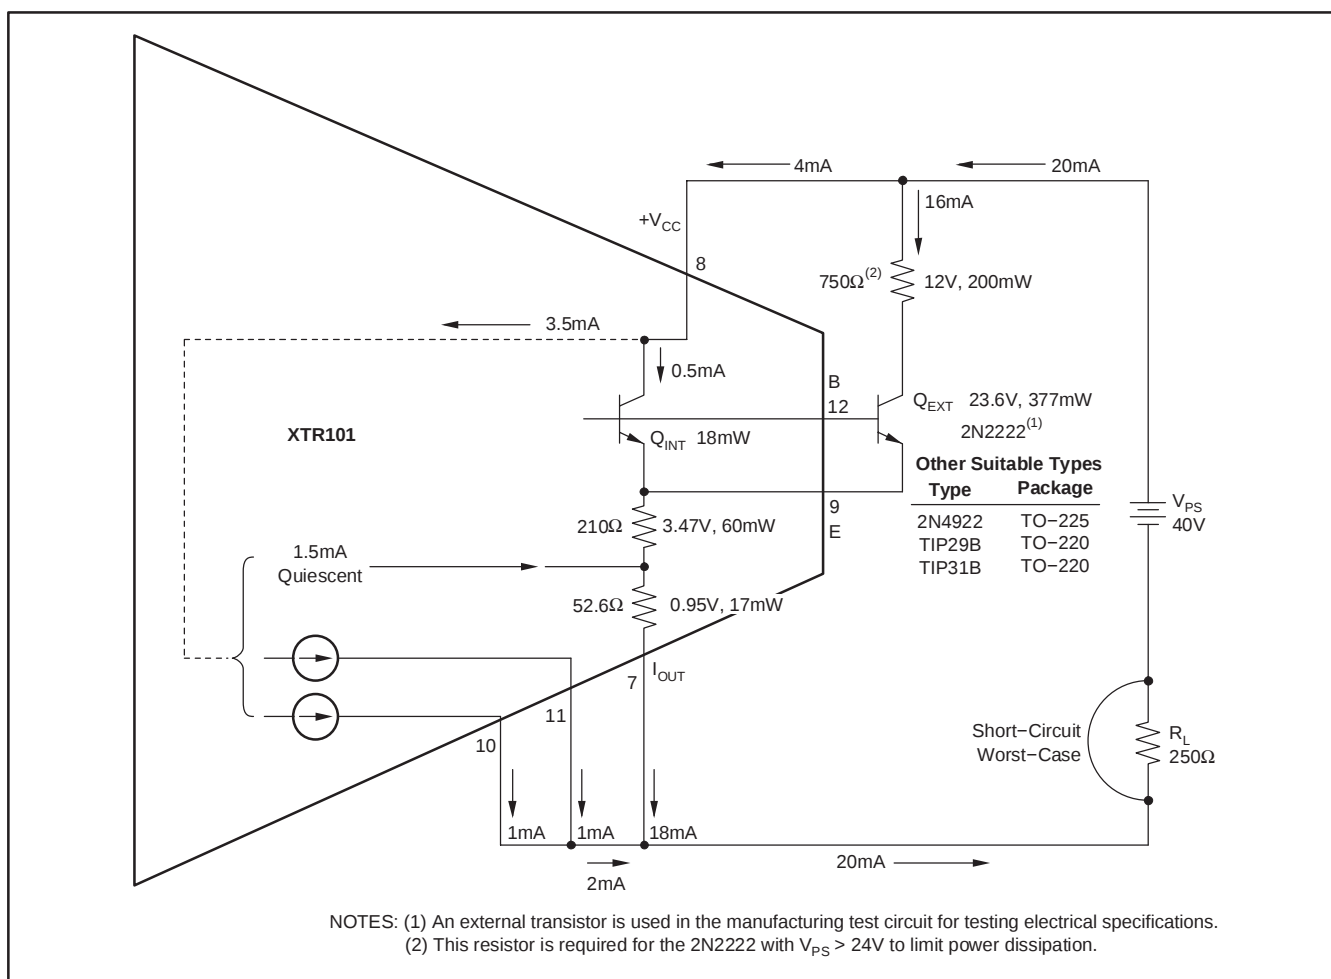

Figure 2. Power Calculation of the XTR101 with an External Transistor
The optional external transistor, when used, is connected in parallel with the XTR101 internal transistor. The purpose is to increase accuracy by reducing heat change inside the XTR101 package as the output current spans from 4-20mA. Under normal operating conditions, the internal transistor is never completely turned off, as shown in Figure 2. This maintains frequency stability with varying external transistor characteristics and wiring capacitance. The actual current sharing between internal and external transistors is dependent on two factors:
1. 2N2222 in the TO-18 package. For power-supply voltages above 24V, a 750 Ω , 1/2W resistor should be connected in series with the collector. This will limit the power dissipation to 377mW under the worst-case conditions; see Figure 2. Thus, the 2N2222 will safely operate below its 400mW rating at the upper temperature of +85°C. Heat sinking the 2N2222 will result in greatly reduced accuracy improvement and is not recommended.